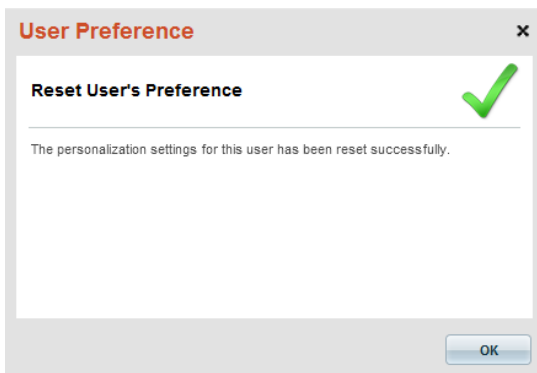

FIG. 88 Reset User's Preferences dialog
3. The system will indicate that the User's Preferences have been reset (FIG. 88):